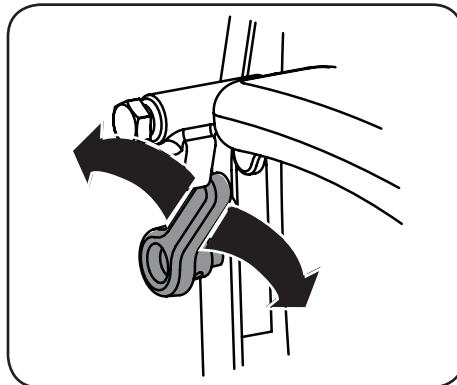

Figure 2-15
To vary the lumbar support (700 and 900 series) move the lever on the right of the seat up and down. See Figure 2-15.
2. Remove the red boot (d), if present, from the positive battery terminal (a) and attach the red cable (c) to the positive battery terminal (a) with the bolt (e) and hex nut (f). See Figure 2-15.